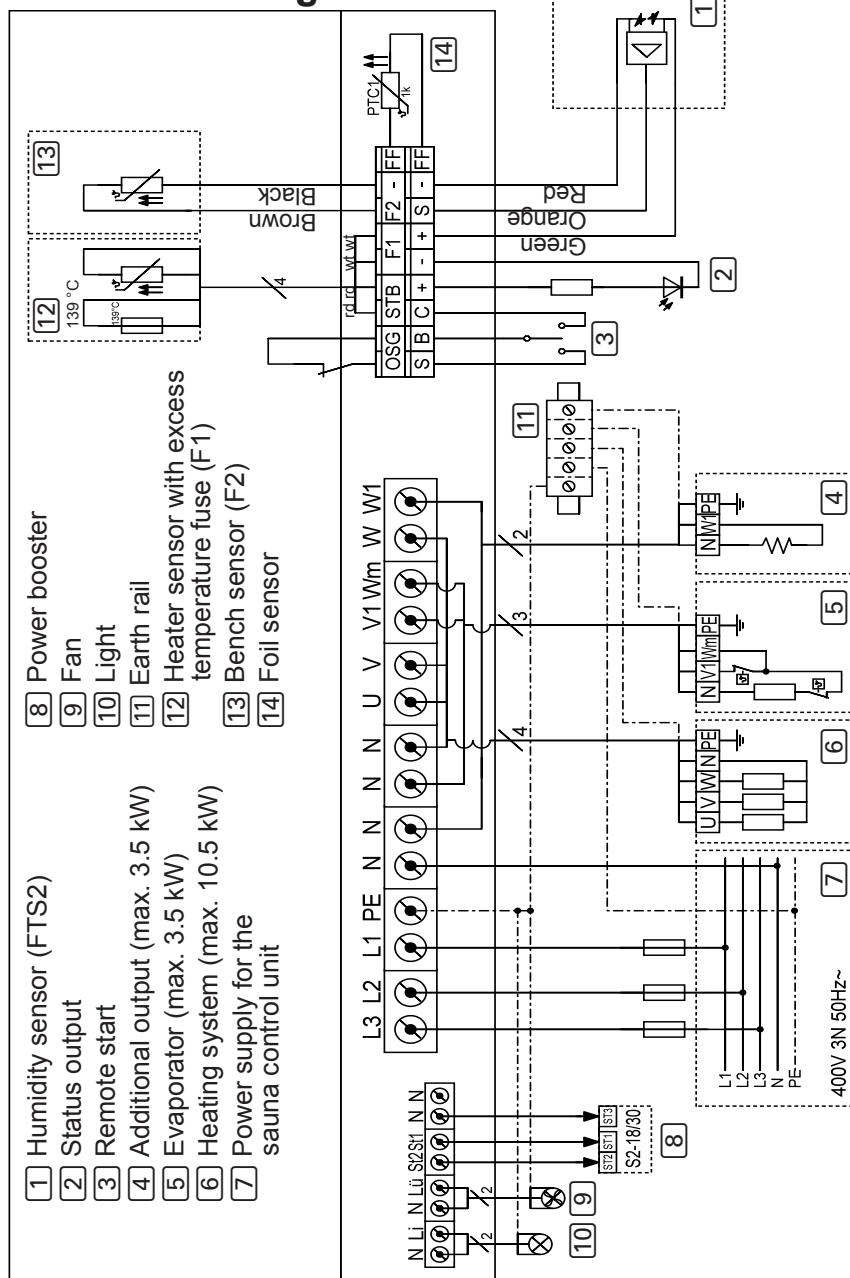

Fig. 4 Connection diagram
- Observe the connection diagram (**Fig. 4**) on page **26**.